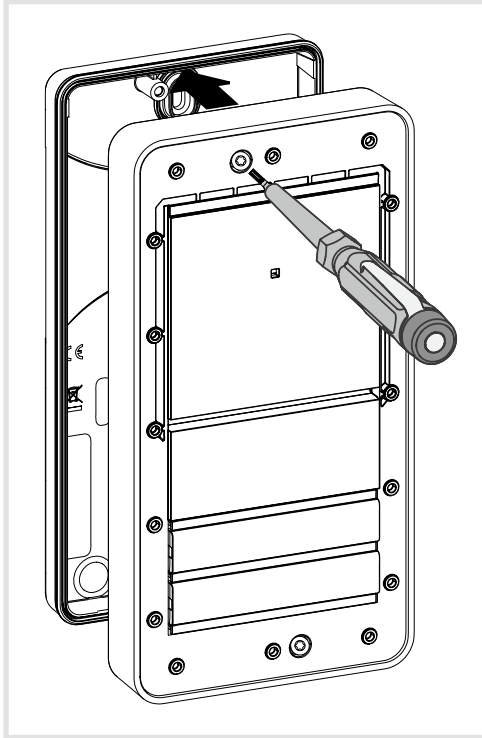

Figure 12: Installing door station
- Position the door station on the base and tighten the two screws in the front plate (figure 12).